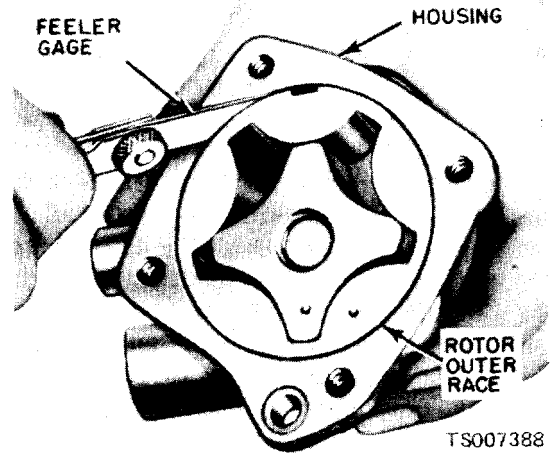

Figure 6-59. Measuring Outer Race Clearance.
(1) Refer to table 6-8 for clearances and wear limits.
(2) Check the inside of the pump housing and the outer race and rotor for damage or excessive wear or scoring.
(3) Check the mating surface of the pump cover for wear. If the cover mating surface is worn, scored or grooved, replace the cover.
(4) Measure the outer race to housing clearance (fig. 6-59).